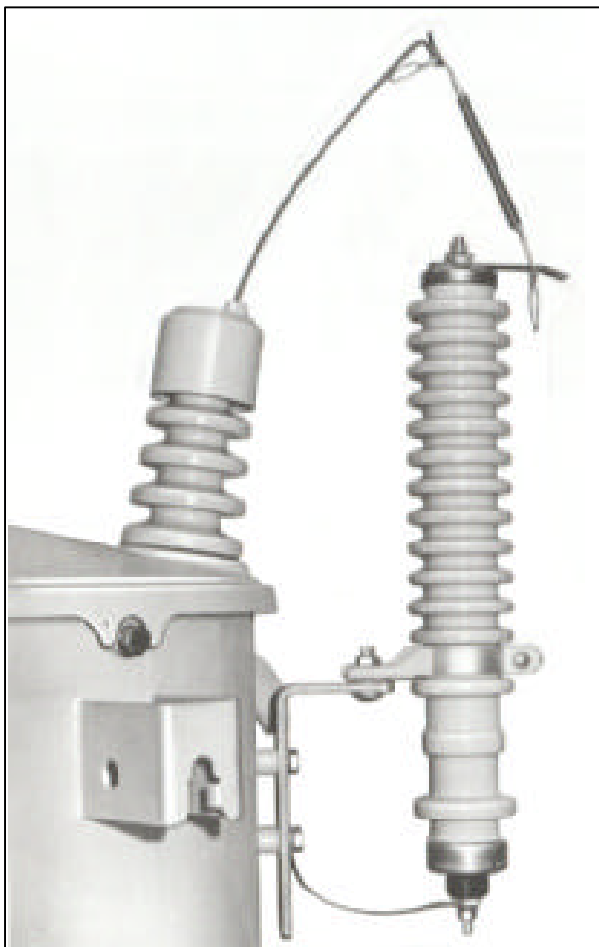

Fig. 9 Protecto-Combo Device
5. Protecto-Combo (See Fig. 9)